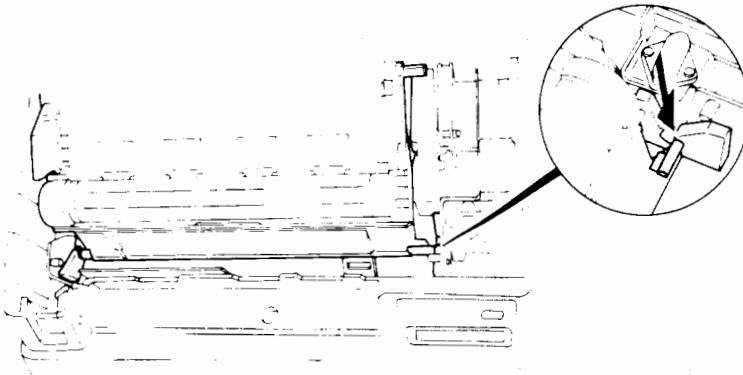

Figure 7-13 Installing the process cartridge
2. Hold the process cartridge by its handles and lower it into the printer, making sure that the pins on either side slide down the nylon grooves inside the printer (see Figure 7-13).